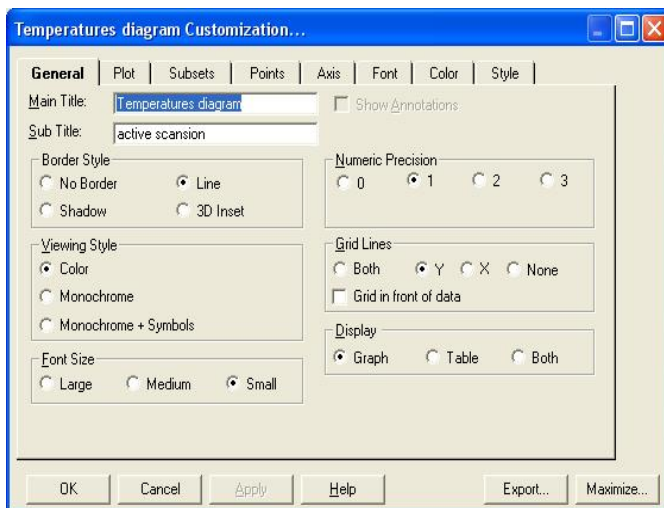

Fig. 17
- *Customization Dialog*: allows you to access a dialog mask (fig. 17), where you can: